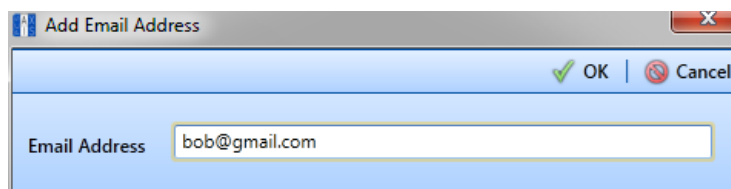

Figure 12-2. Add Email Address
- Click  **Add Email** to open the *Add Email Address* dialog box (Figure 12-2).